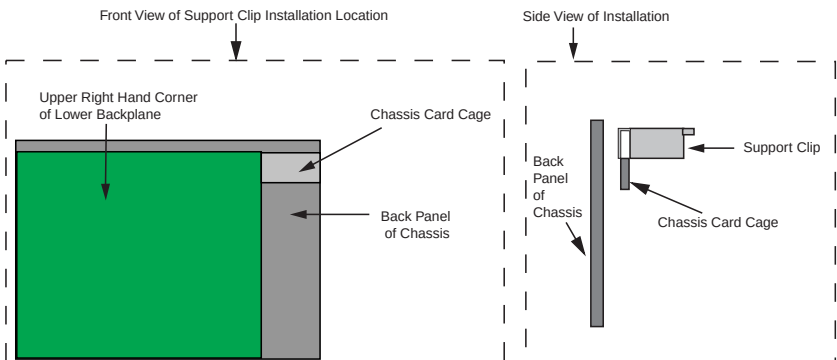
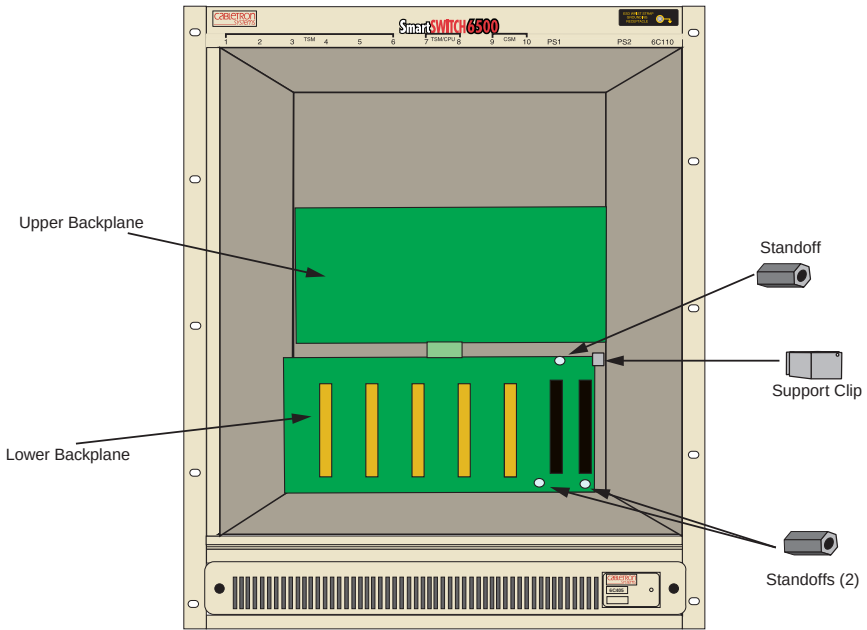

Figure 3-8 Installing the Support Clip
Figure 3-9 Installing the Standoffs
4. Using a .25-inch hex nut driver, install the three standoffs into the holes that formerly held the screws removed in step 3. See Figure 3-9.
5. Install the support clip by sliding the notched end over the rear chassis card cage, in the space provided next to the upper right hand corner of the lower backplane. Refer to Figure 3-8 and Figure 3-9.